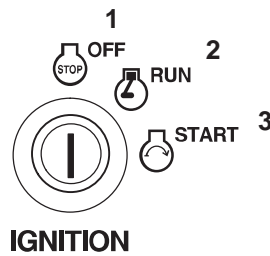

Figure 18
6. Turn ignition key to “START” to energize starter. When engine starts, release key (Fig. 18).
- Turn the ignition key to “OFF” and remove (Fig. 18).